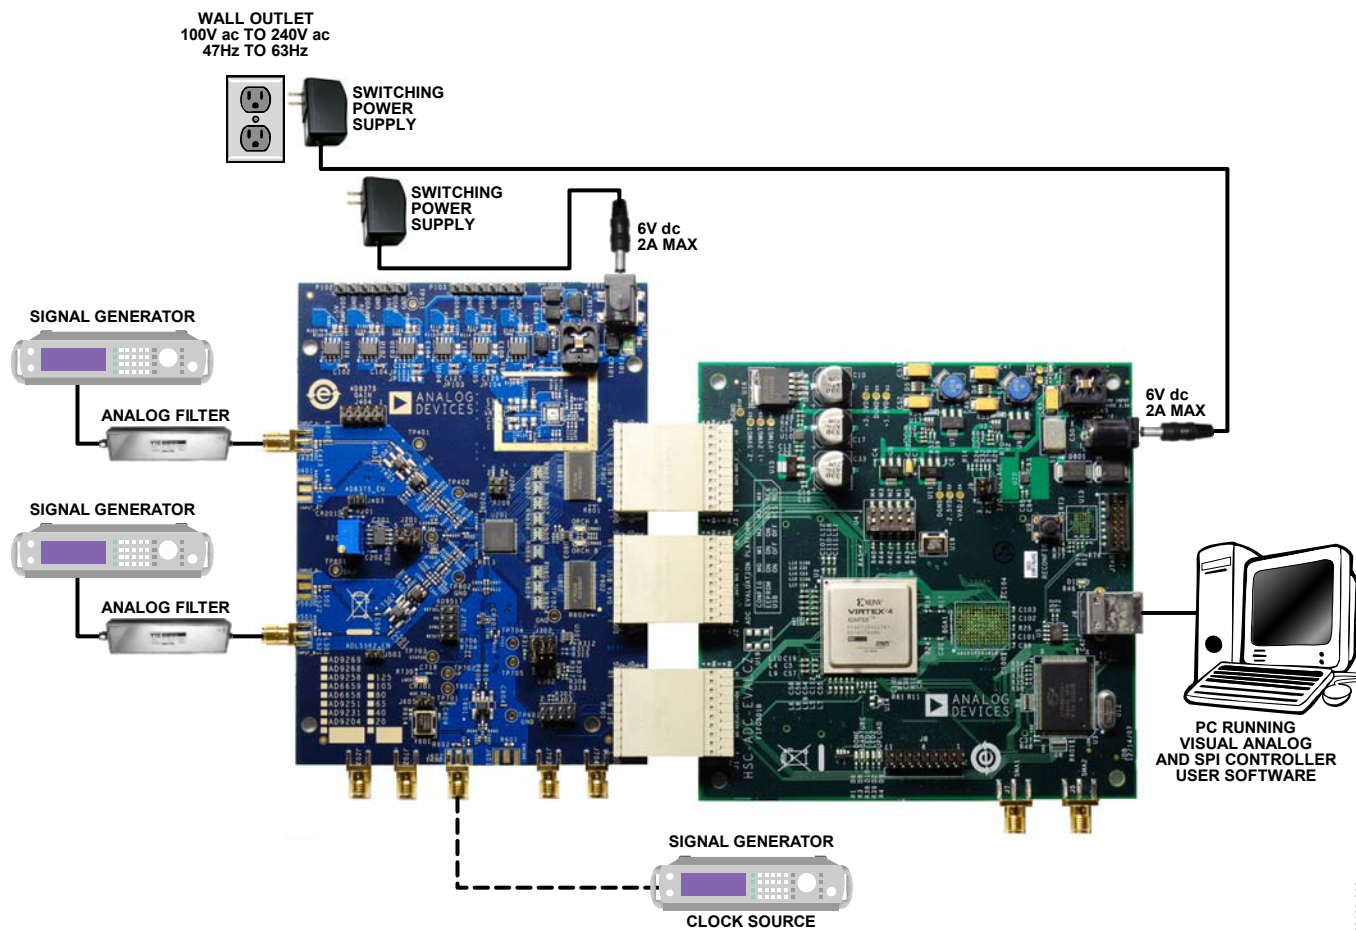

Figure 2. Evaluation Board Connection
The evaluation board provides all of the support circuitry required to operate these parts in their various modes and configurations. Figure 2 shows the typical bench characterization setup used to evaluate the ac performance. It is critical that the signal sources used for the analog input and clock have very low phase noise (<1 ps rms jitter) to realize the optimum performance of the signal chain. Proper filtering of the analog input signal to remove harmonics and lower the integrated or broadband noise at the input is necessary to achieve the specified noise performance.
1. Connect the evaluation board to the data capture board, as shown in Figure 1 and Figure 2.